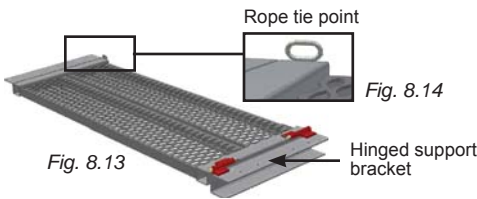

Fig. 8.14
- 8- Tie a rope to the tie point (fig. 8.14) to facilitate the opening and closing of the mast tie door.